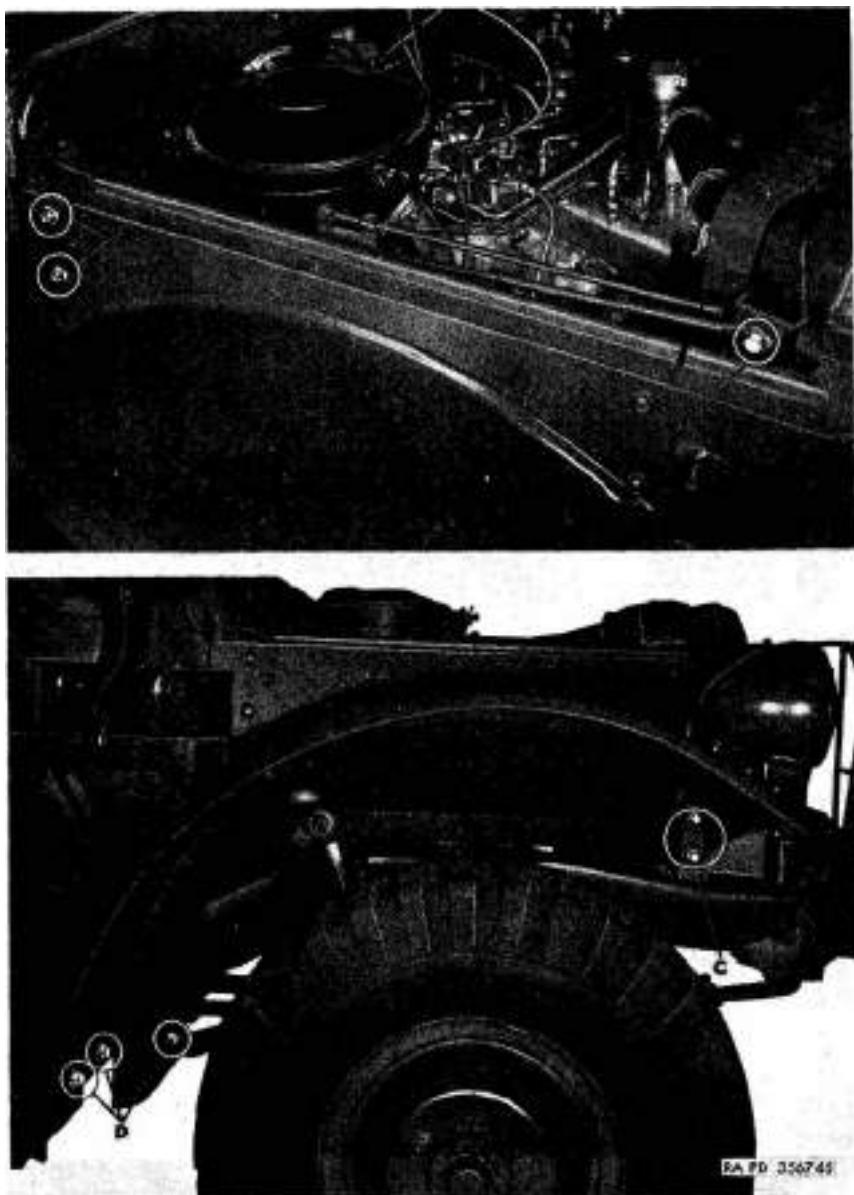

Figure 12. Fender and radiator guard assembly disconnect points.
c. Remove Front Fenders and Radiator Guard Assembly (*fig. 12*). Remove lock washer screws from fender supports (C and D). Remove lock washer screws from rear of hood panel (A). Remove lock washer screws from radiator-tie rods at front end (B). Remove fenders (with headlight and marker light) and radiator guard assembly.